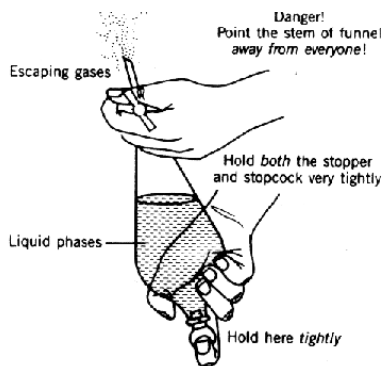

Figure 3: Venting a separatory funnel.
7. To extract the p-toluic acid, invert the funnel and rock continuously for ~30 sec holding the stopper firmly. Stop frequently to vent the CO₂ gas and pressure. See Figure 3.